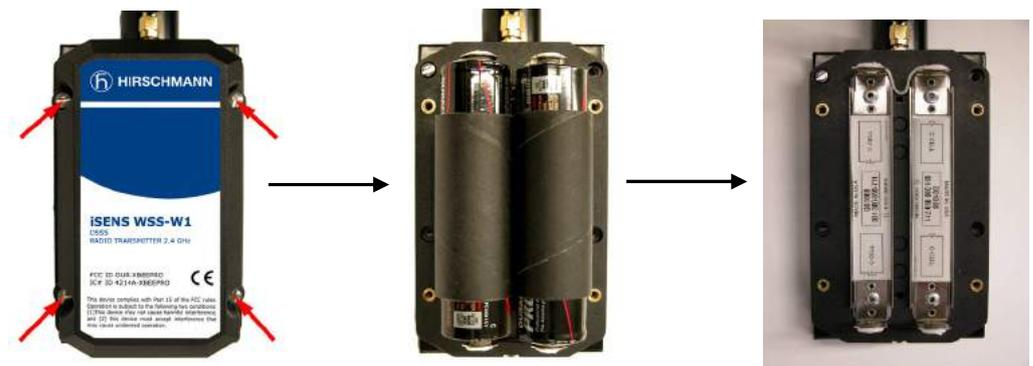

Figure 7: Steps for Removing Batteries
1. First, open the battery compartment of the wireless sensor after undoing the 4 screws and remove the batteries as shown in Figure 7.